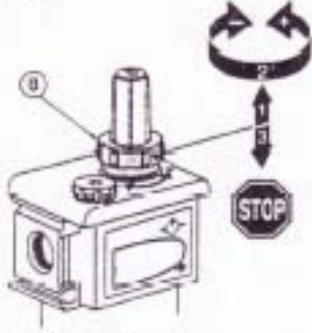

Fig. 1
- Adjustment by means of knob (B) with "pull-turn-push" type locking system (fig.1), or by means of a 6 mm Allen key after having first unblocked the adjustment knob (pull B) (fig.2). Flow direction indicated by arrows.
- 360° oil flow sight glass (C)